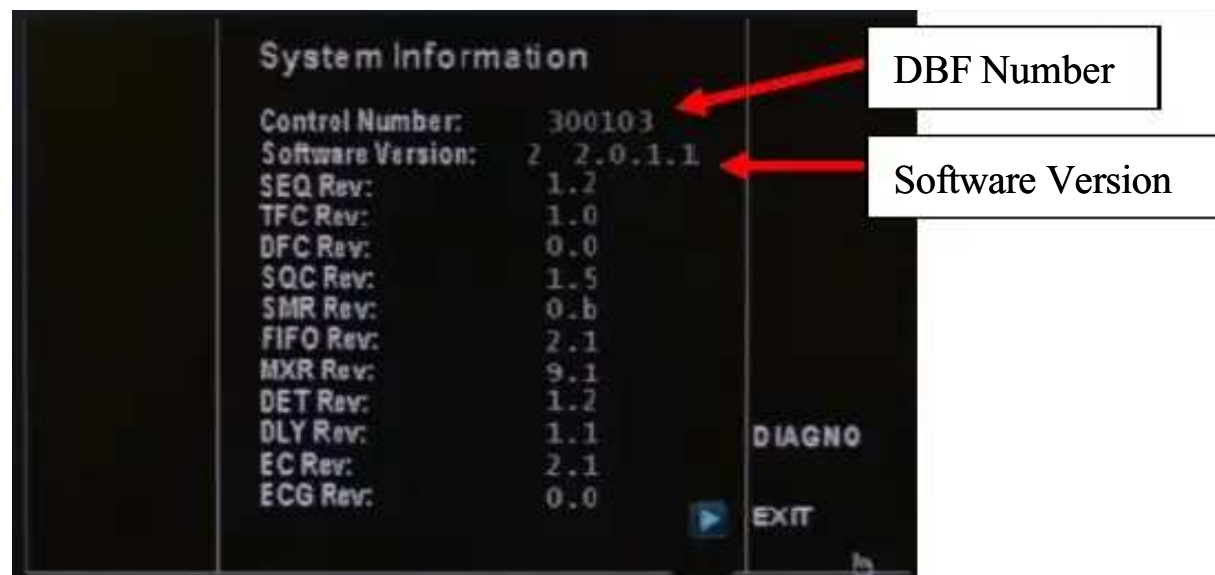

Fig. 4-2
- 2) Move the trackball to select System information. Press Set to pop up a dialog as shown in Fig. 4-2.